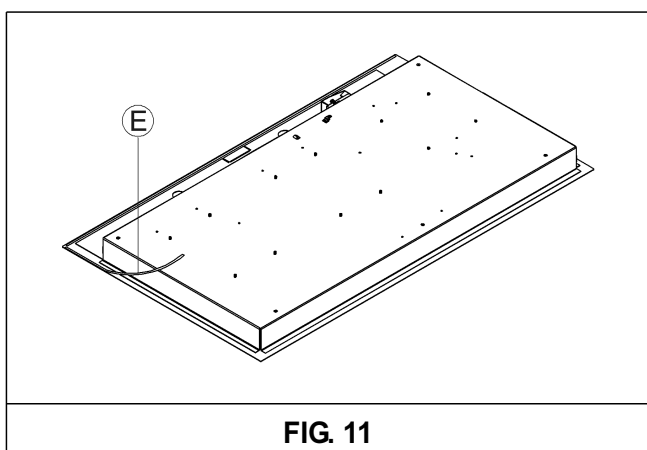

FIG. 11
- Overturn the hot plate and correctly position seal "E" (fig. 11) under the edge of the hot plate itself, so that the outer side of the seal perfectly matches the outer perimetral edge of the hot plate. The ends of the strips must fit together without overlapping.